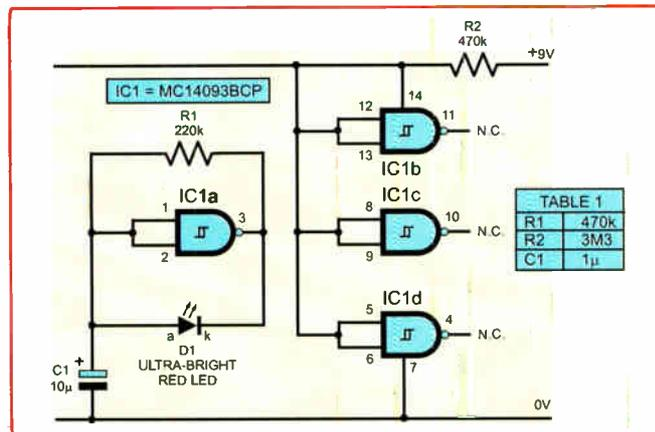

Fig.1. Circuit diagram for the 1000-Year Flasher
**T**HE author is not certain how one would define a micropower circuit. He would put it at less than about  $20\mu\text{A}$ . Very few integrated circuits work with such low power – but those that do include the quad NAND Schmitt trigger IC1 shown in the simple flasher circuit of Fig.1. In fact IC1 ordinarily draws more than  $500\mu\text{A}$  at 9V.
However, IC1 can be persuaded to use much less power than this, simply by restricting the current flow through resistor R2. With the component values shown in Fig.1, this circuit will brightly flash an ultrabright LED at 0.5Hz for more than twenty years – drawing  $12\mu\text{A}$  off six high capacity AA batteries. If the component values in Table 1 are used, it will flash, although more dimly, for close to one thousand years – drawing just  $0.3\mu\text{A}$ .
Fig.1 shows the full circuit details of the Lapel Microphone Adaptor. It includes a dual op amp package (IC1) to do the audio signal processing, plus two relays to shunt the signal on each balanced line to ground during muting. Power for the circuit is derived from a 9V battery and is applied via reverse polarity protection diode D1 and power switch S1.
As shown on Fig.1, the relay coils are connected in series, with one side going to ground via a 470 $\mu$ F capacitor and a 680 $\Omega$  resistor connected in parallel. Initially, the 470 $\mu$ F capacitor is discharged and so the full 9V is applied across the series-connected relay coils – ie, 4.5V for each relay. This is quite sufficient to activate the 5V relay coils and close the contacts, RLY1&2.